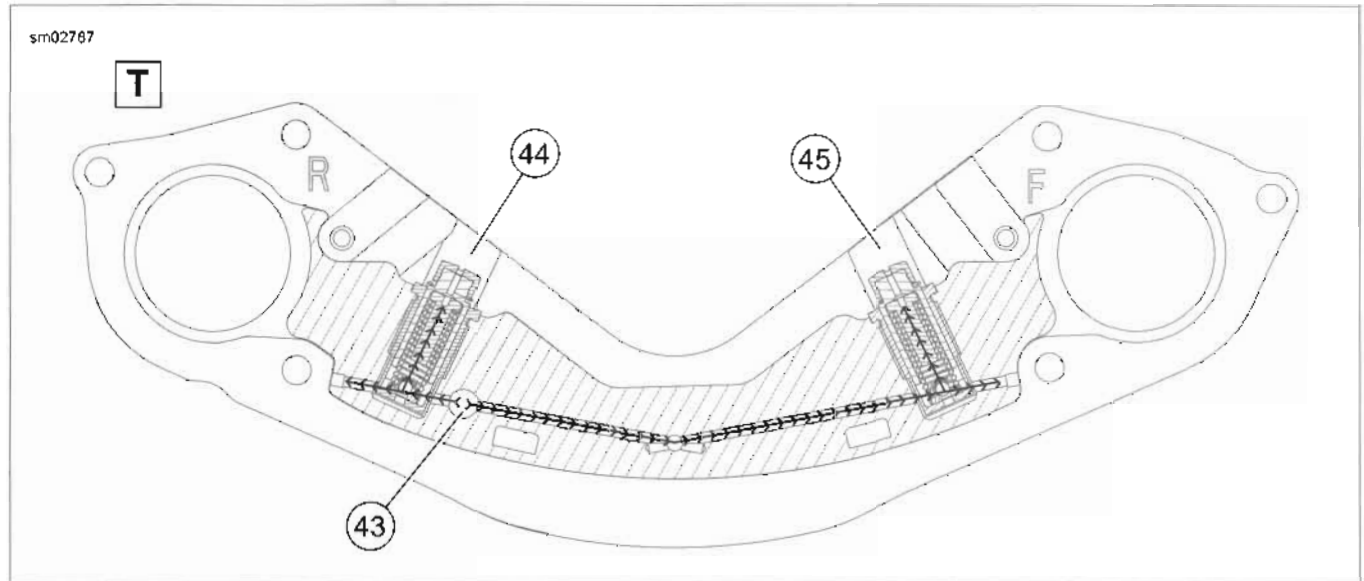

Figure 3-7. Engine Oil Flow: Chain Guide Bracket
- Chain guide bracket oil flow is shown in Figure 3-7.